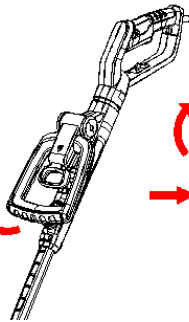

Fig. 5
2. Adjust the secondary handle to the most comfortable position. Put bolt through the hole. (Fig. 5)